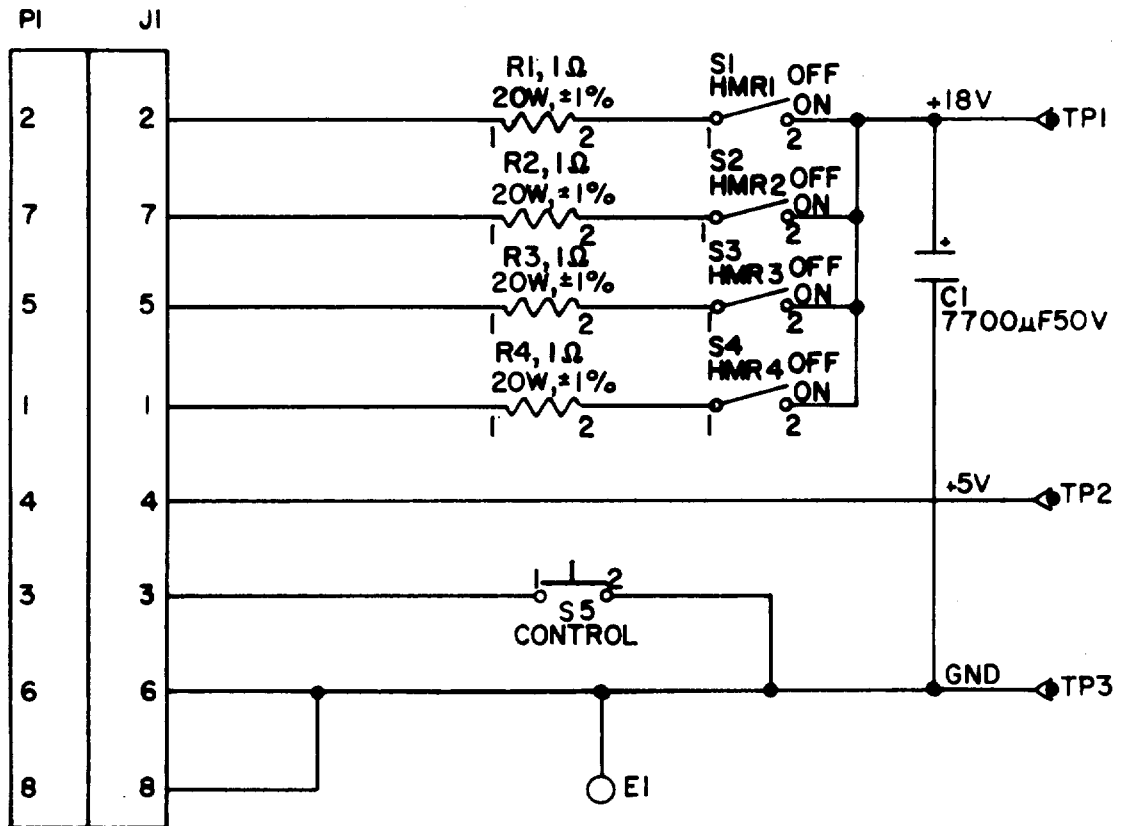

Figure 6-41. HAMMER MODULE TEST FIXTURE. SCHEMATIC DIAGRAM.
C. HAMMER MODULE TEST FIXTURE TEST PROCEDURES (fig. 6-41)